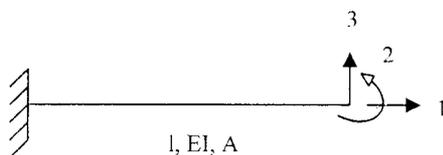

Fig. 1
3. Write the flexibility matrix for the coordinates shown in fig. 1.